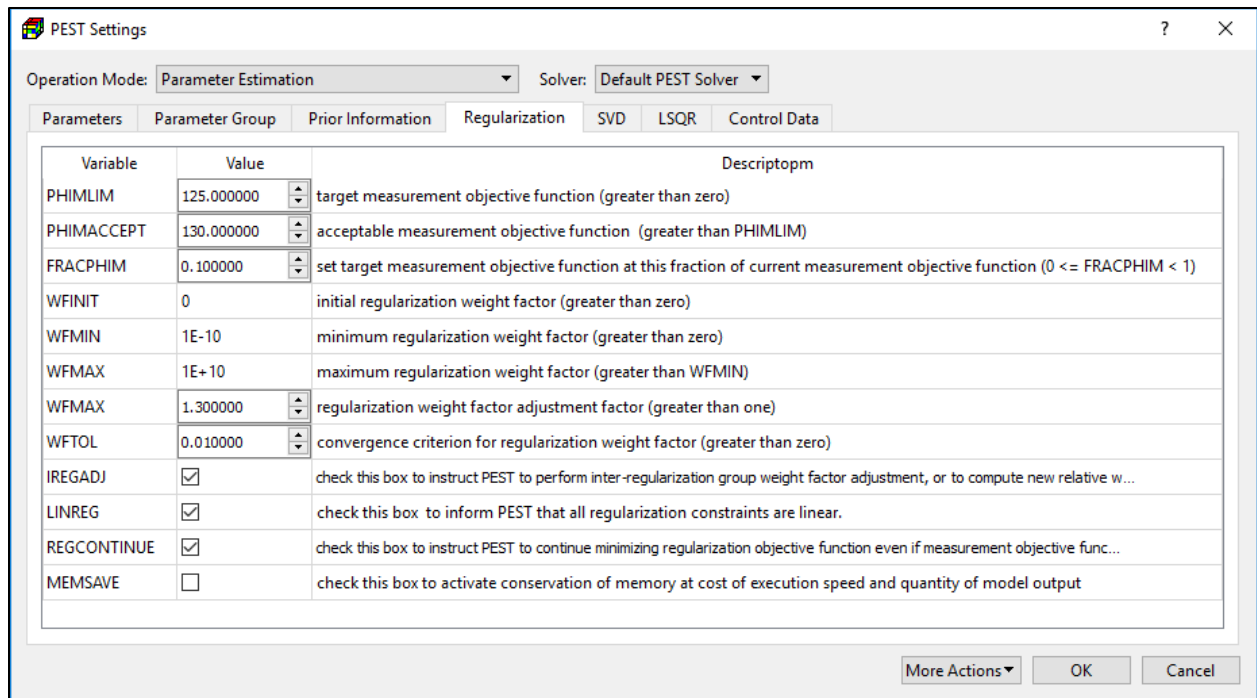

Figure 140. The Regularization tab of the PEST Settings dialog box
7. **Regularization Tab** (Figure 140): Tikhonov regularization is the most commonly used method of regularization and is incorporated in PEST. In its broadest sense, regularization is a term used to describe the process whereby many parameters can be simultaneously estimated without incurring the numerical instability that normally accompanies parameter nonuniqueness. Numerical stability is normally achieved through the provision